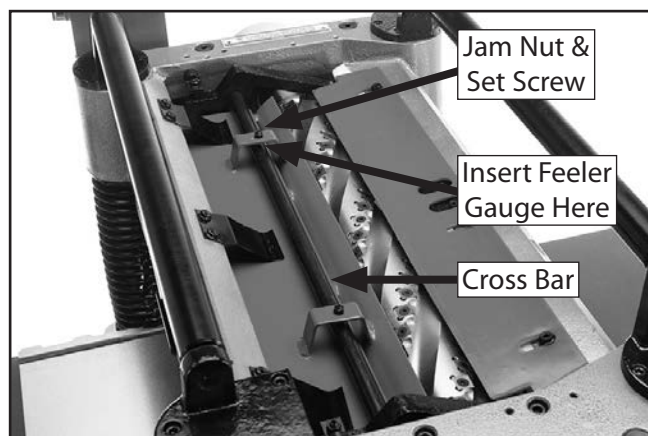

Figure 60. Feeler gauge location for adjusting chip breaker height using wood blocks.
13. Loosen jam nuts and set screws on each side of chip breaker (see **Figure 60**).
14. Using a feeler gauge, adjust set screw so it is 0.040" from cross bar (see **Figure 60**), then tighten jam nut. Repeat on other side of chip breaker.